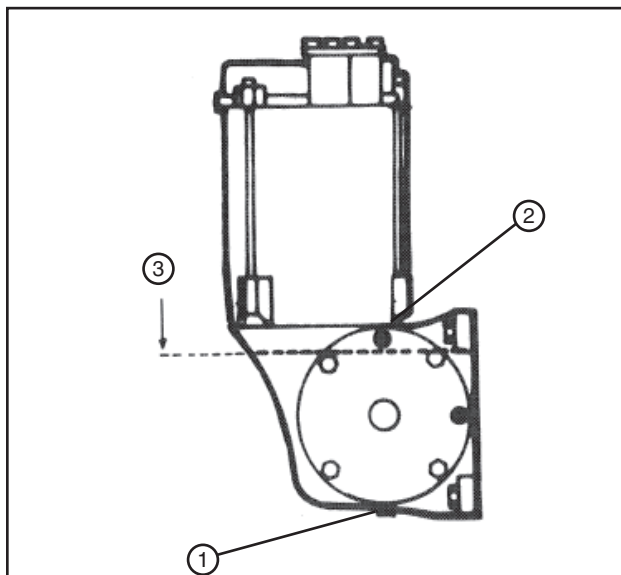

Figure 90-3 1. Drain Plug 2. Fill Plug 3. Oil Level
1. Remove the drain plug and the fill plug. Drain the oil and install the drain plug. See figure 90-3.
2. Fill the gearbox to within 1/2 in (12.7 mm) of the bottom of the fill plug hole with Valley Gear Lube. The capacity of the gearbox is approximately 1 quart (0.9 liter). See figure 90-3.